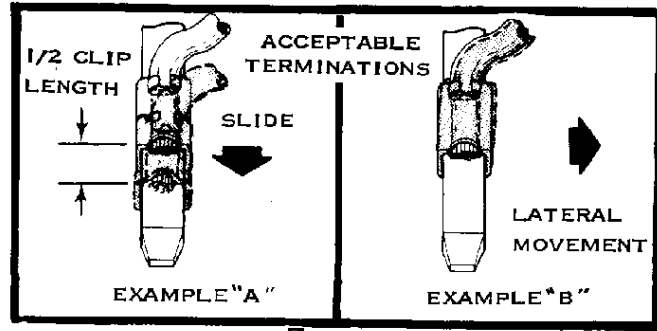

FIG. 2
(c) Clip may slide, no more than 1/2 the Clip Length, before the Indicator Ring is visible. See Figure 2-A.
(d) Lateral Clip movement during test, see Figure 2-B, does not affect the quality of termination.
- (d) Clip may slide no more than 1/2 the Clip Length, before reading is obtained. See Figure 2-A.
- (e) Lateral Clip movement during test, see Figure 2-B, does not affect the quality of termination.